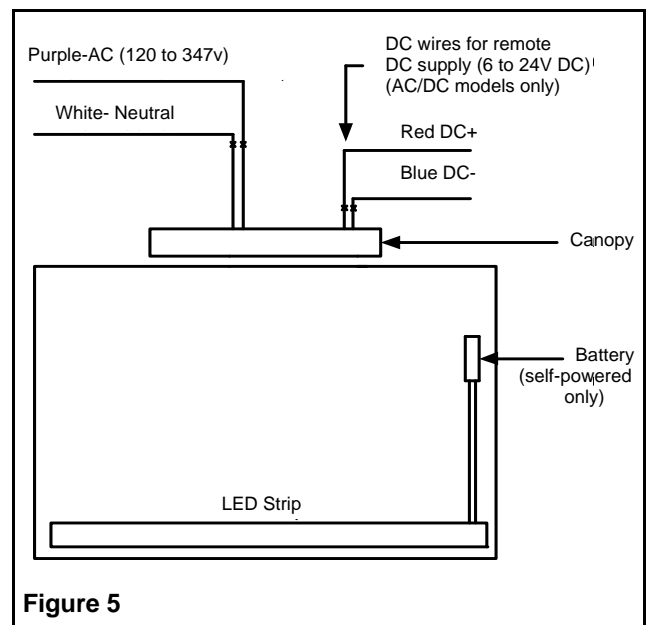

Figure 5
4. Make the proper connections, the system accepts an input voltage of 120 to 347VAC (see Figure 5). Connect the purple (120 to 347 VAC) and white (Neutral) leads to the building utility. Feed excess wire into the junction box.
Refer to Figure 5 for AC or DC wiring.